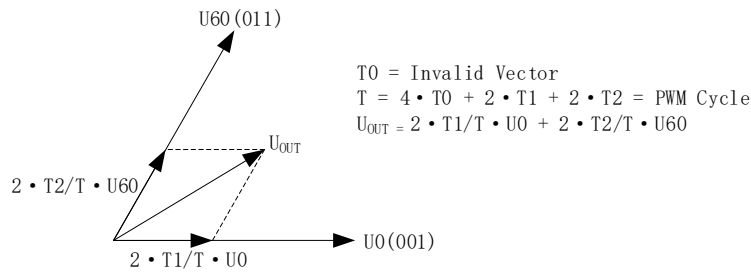

Figure 14-7 SVPWM Voltage Vector Synthesis
SVPWM uses the sum of two adjacent vectors to generate any voltage vector located in the voltage vector space. As shown in Figure 14-7, U_{OUT} is the desired vector and it is in the sector between U_{60} and U_0 . In defined PWM cycle (T), the effect, U_0 applied $2T_1/T$ time and U_{60} applied $2T_2/T$ time, is equivalent to the U_{OUT} . The rest of time (T_0) is applied by zero voltage vector.